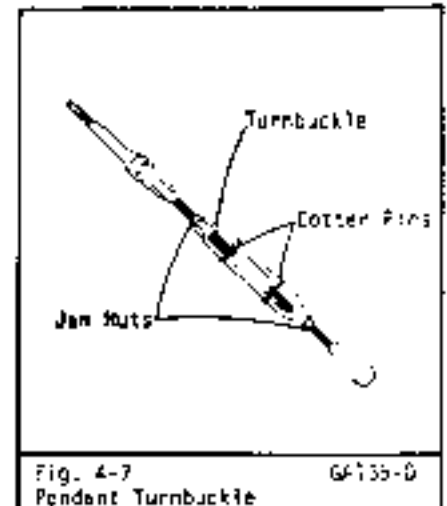

Fig. 4-7
- Remove the cotter pins and loosen jam nuts on the turnbuckles. Refer to Fig. 4-7.